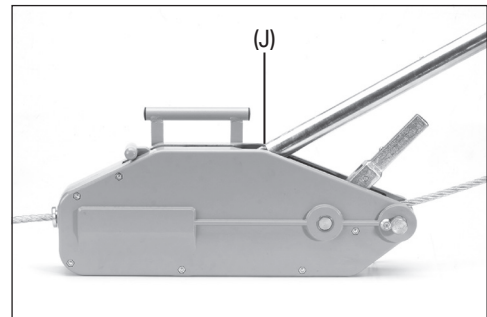

Fig. 6
6.4 Lowering A Load (fig.6)
- **Use reverse operation** – fit the extendable handle to (J). Move the handle back and forth to push the wire rope back through the puller.